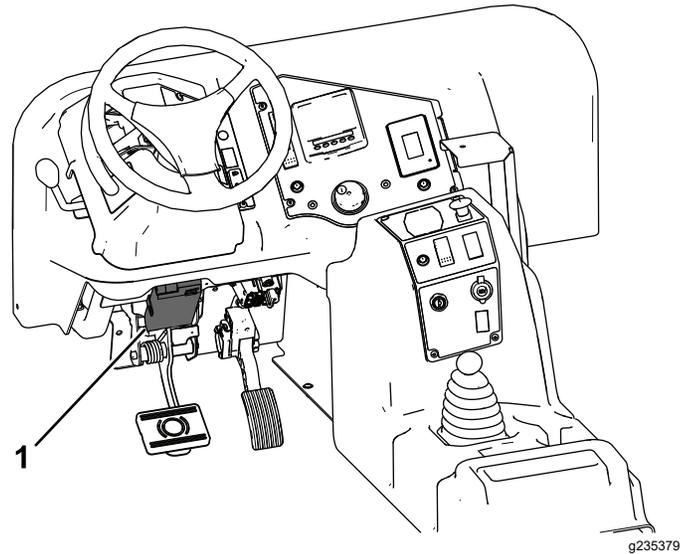

Figure 8
1. Mount the brake controller (Figure 8) to the lower left area of the dashboard with the 2 bolts (#10 x 7/8 inch) and nuts (#10).